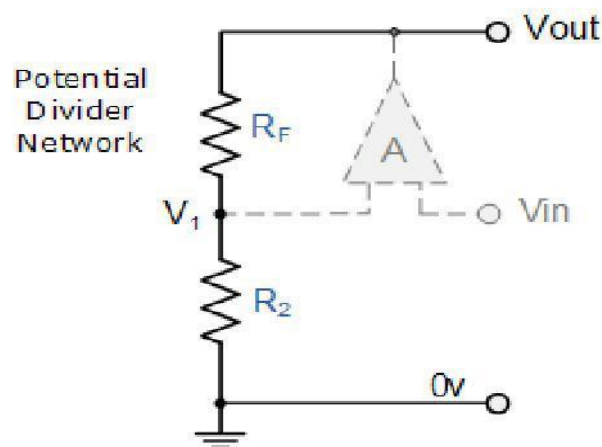

Fig 1.24: potential divider in non-inverting op-amp
1. From open loop gain vs frequency graph At 1 MHz shown in.fig.1.24,it can be found 1 MHz for the 741C OPAMP frequency the gain reduces to 1. The mid band voltage gain is 100, 000 and cut off frequency is 10Hz.